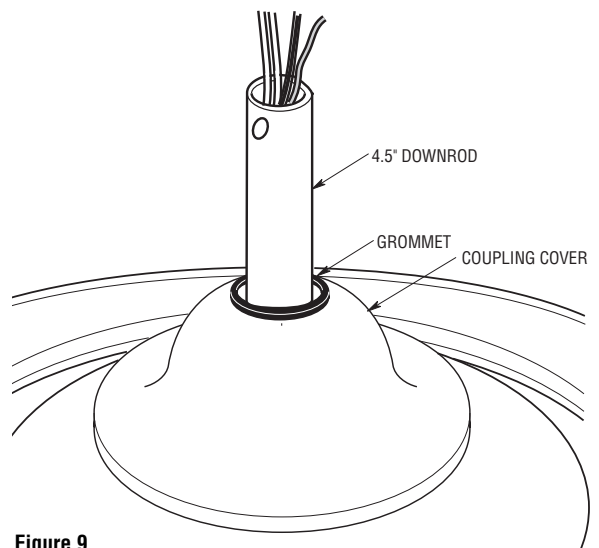

Figure 9
- 16. **4.5" Downrod Installation:** Be sure the grommet is properly installed in the coupling cover, then slide the coupling cover on the downrod until it rests on the motor housing. Be sure that the coupling cover is oriented correctly (Figure 9). Proceed to Step 21 to complete assembly.